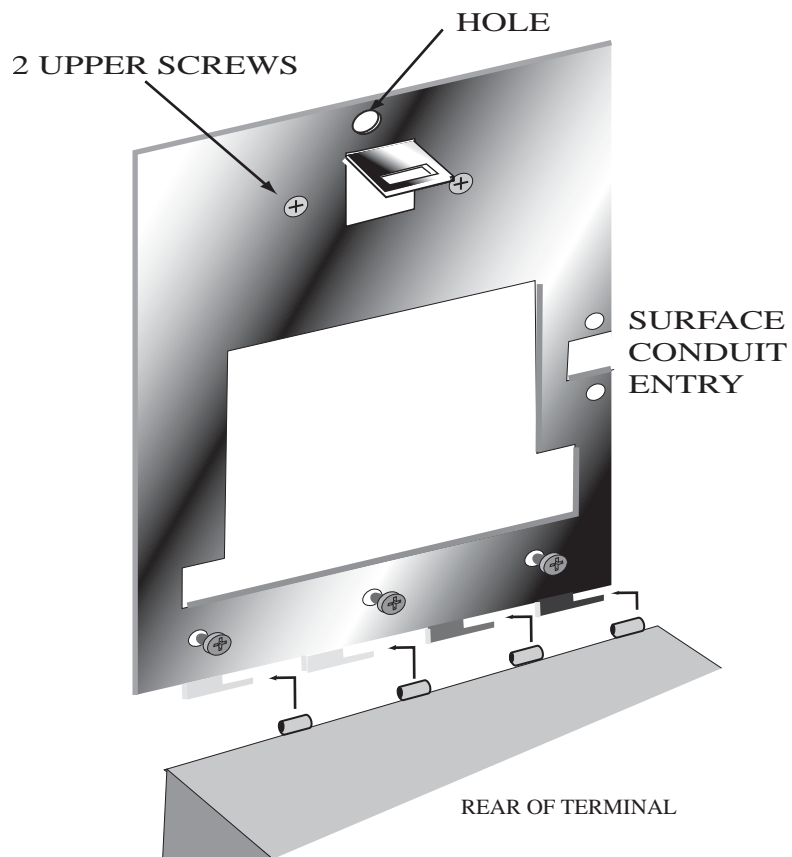

Figure 3-3: Attaching the HandPunch to the Wall Plate
2. Align the sleeves of the back plate with the pins of the wall plate and slide the HandPunch to the left as shown in Figure 3-3.